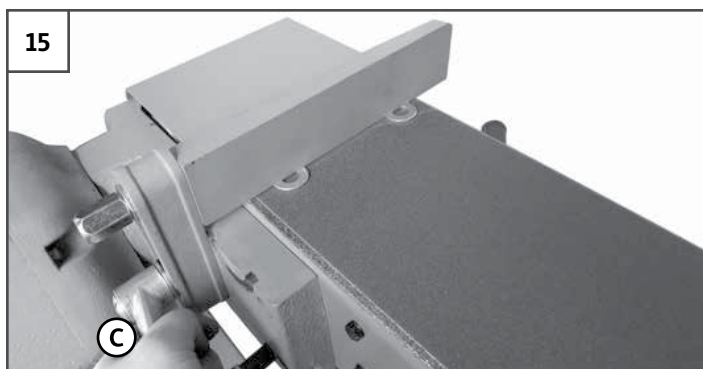

FIGURE 15: ADJUSTING BACKSTOP HEIGHT
10. Loosen the **LOCK LEVER (C)** and adjust the position of the backstop up or down. Ensure the backstop clears the sanding belt. Use two flat washers to gauge the clearance. Then tighten the **LOCK LEVER (C)**. See Figure 15.